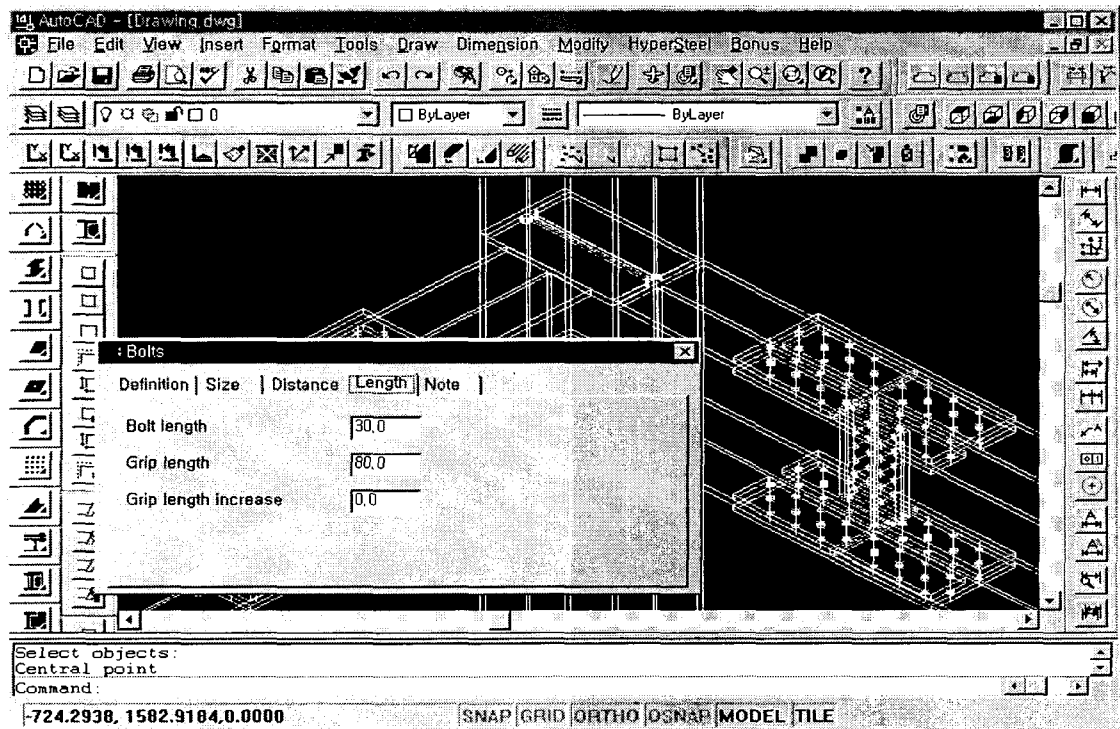

Fig. 7 HyperSteel
- The use of ARX(MFC) dialogue boxes gives a direct coupling between the changes and the model (Fig. 7)